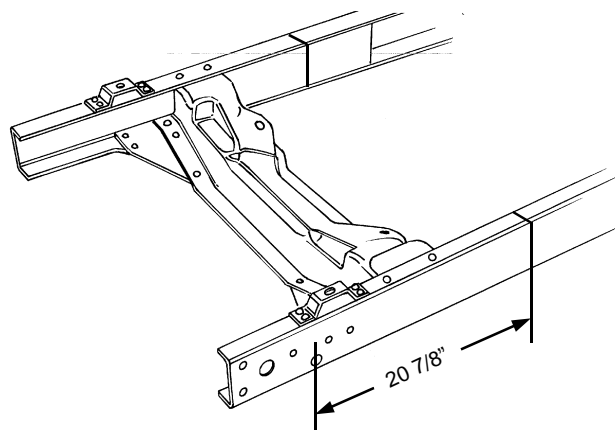

Figure 2
4. Measure back 20-7/8" from the center of the front shackle hole in the frame and scribe a line around the rail. See Figure 2. This scribed line is the spindle centerline.